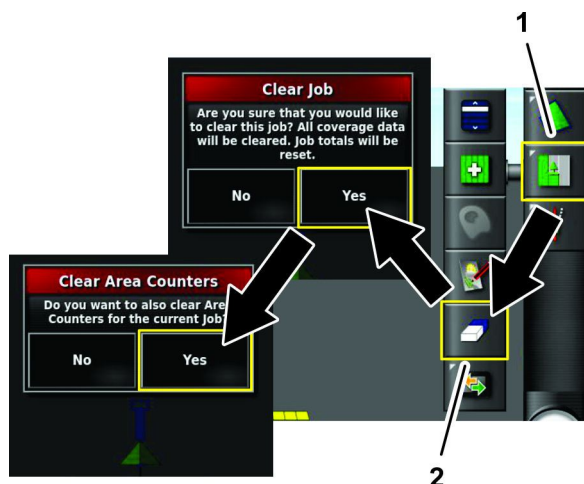

Figure 30
1. Press the Jobs Menu icon (Figure 30).
2. Press the Clear Jobs Data icon (Figure 30).
3. Press the Yes icon in the clear jobs dialog box (Figure 30).
4. Press the Yes icon in the clear area counters dialog box (Figure 30).